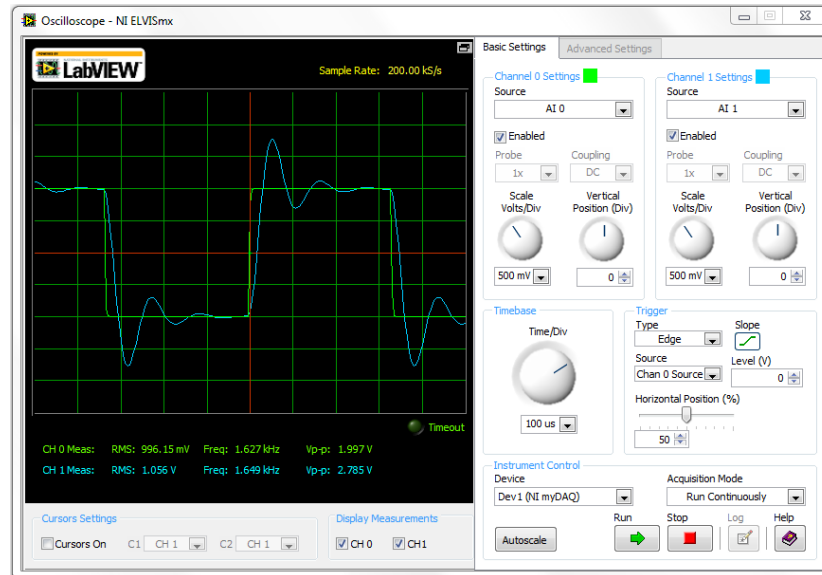

Figure 7: Underdamped system response
- The trigger should be edge with the source as channel 0. Your system response should look similar to the scope display in Figure 7. *Note that this image is from a different circuit so they won't be exactly the same!*